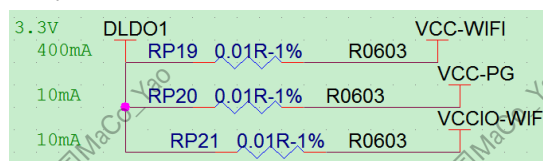

Figure 2-6 VCC-WIFI Power Design
- WiFi usually has a wide voltage input and can be powered by PS or DLDO1. When WiFi supports SDIO3.0, VCC-WIFI can use PS power supply, and VCC-PG uses 1.8V power supply; when WiFi only supports SDIO2.0, VCC-WIFI and VCC-PG can be combined to share DLDO1 power and use 3.3V IO voltage. Figure 2-6 shows the power circuits of VCC-WIFI.